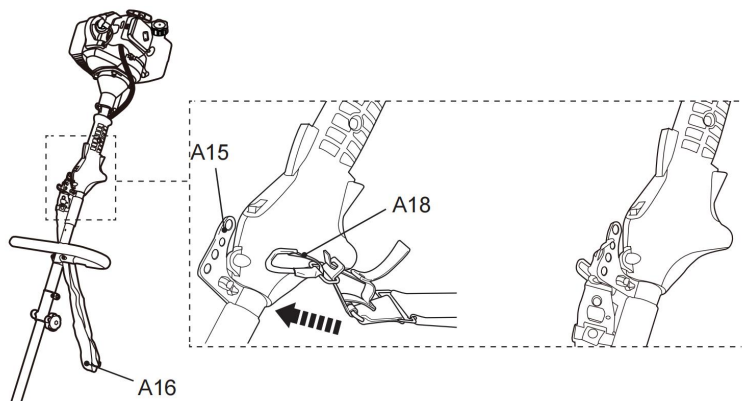

Fig. 32
1. Attach the securing clip (A18) to one of the four loops (A15) (Fig. 32).